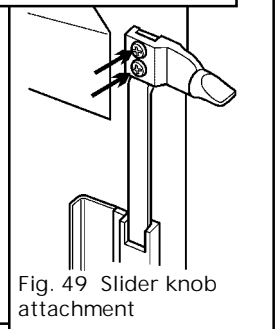

Fig. 49 Slider knob attachment
**13.6.2** Detach the slider knob from the slider bar (Colourway & Homestyle models - detach from the extension bracket). See figure 49.